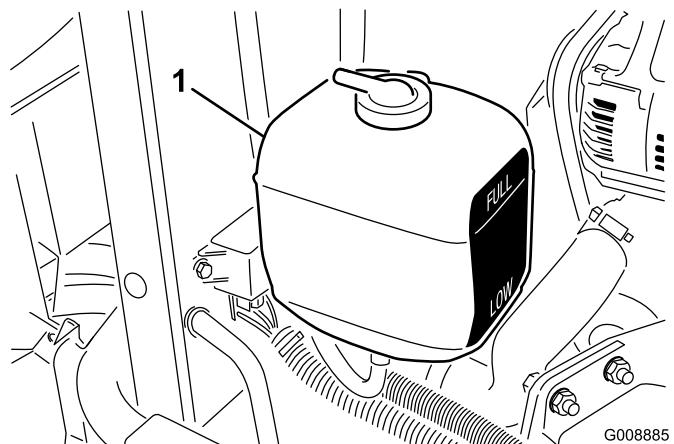

Figure 36
1. Check the coolant level in the expansion tank (Figure 36).